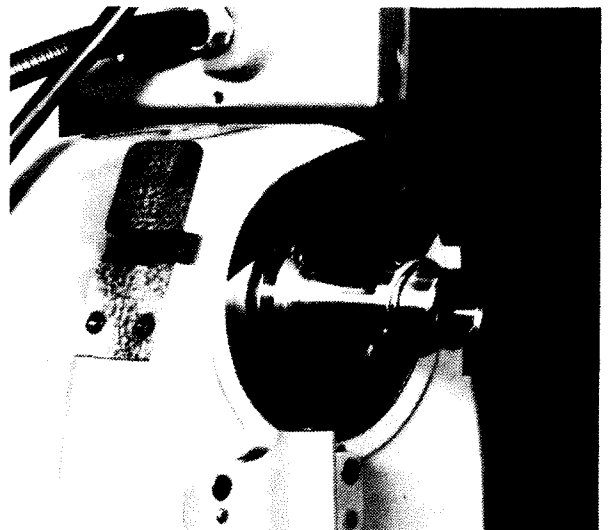

Figure 4.12 - Headstock Belt Removal
25. Pull the headstock belt off the spindle pulley, over the end of the spindle pulley, and out of the headstock, Figure 4.12 .